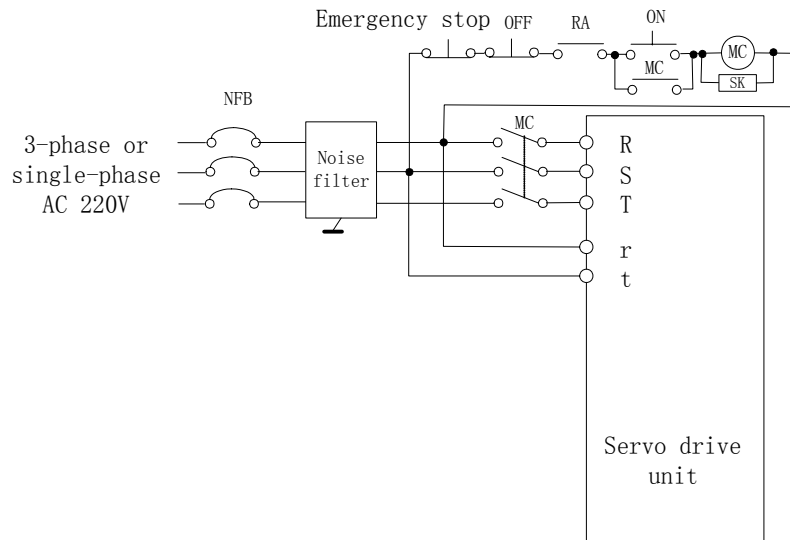

Figure 7-1 Power supply wiring diagram
- Make sure to connect the equipment to an emergency stop circuit so that the power supply can be immediately disconnected in the event of fault. (See Fig.7.1)
See Figure 7-1 for connection to power supply and switch on the equipment in the following sequence: